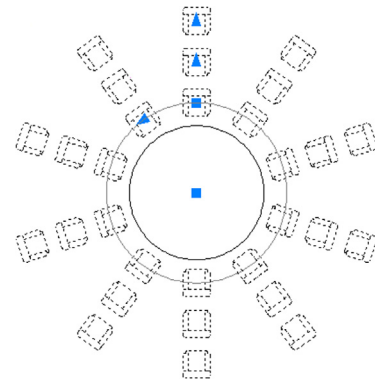

FIGURE 8.9
- **Row Count.** This option adds another set of row(s) of items in front or behind the main row, as seen in Figure 8.9.